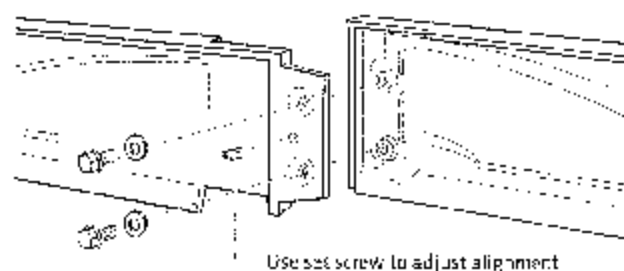

Figure 23. Attach Surround Breastplates
4. Lay the four surround panels on the floor backside up. Using two bolts and washers attach the right and left upper sections (breastplates) together. See fig. 23.